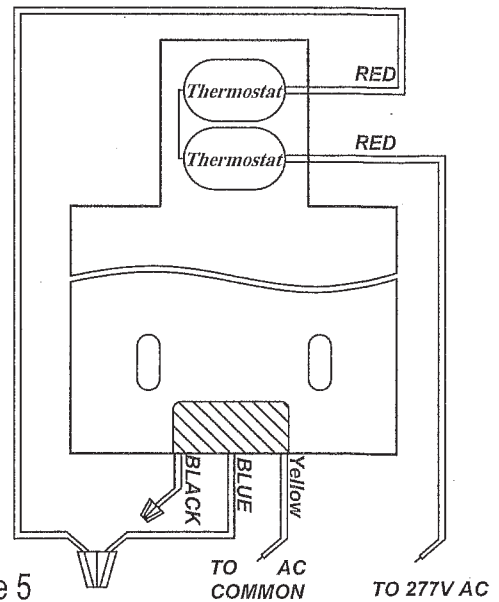

Figure 5
- Figure 5: 277V heater pad wiring diagram